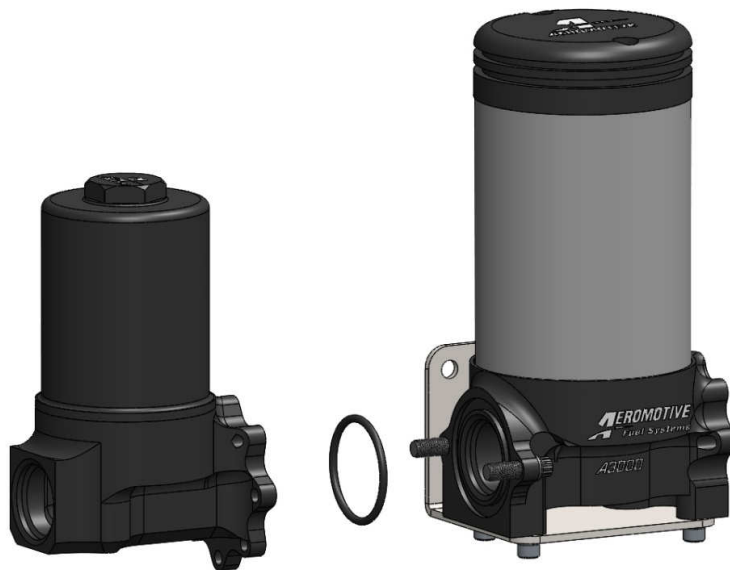

FIGURE 1-2
3. Find a suitable place on the vehicle chassis to mount the Aeromotive fuel pump. Make sure the location will accommodate the pump mounting bolts, will position the pump at or below the sump, and is clear of the exhaust and any moving suspension or drivetrain components. Also, give careful consideration to keeping the pump clear of road obstructions or debris. The A3000 fuel pump is also equipped with an index-able pre-filter and bypass style regulator for line-pressure. This makes the final assembly more flexible, for fitment in any chassis. **Note: The supplied o-ring must be installed between the pump and regulator/filter to seal.** Both of these components may be indexed every 45 degrees (**FIGURE 1-2**).